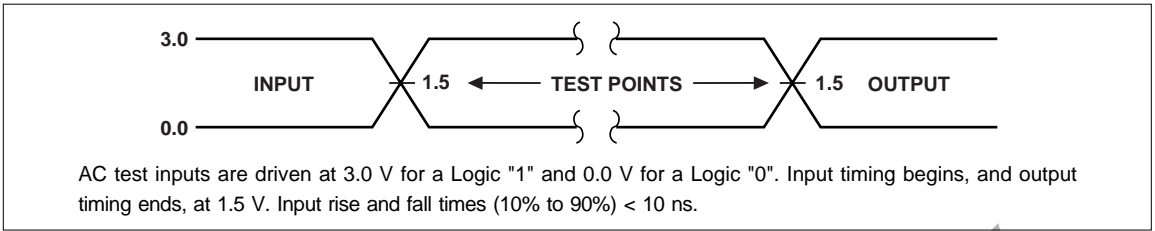
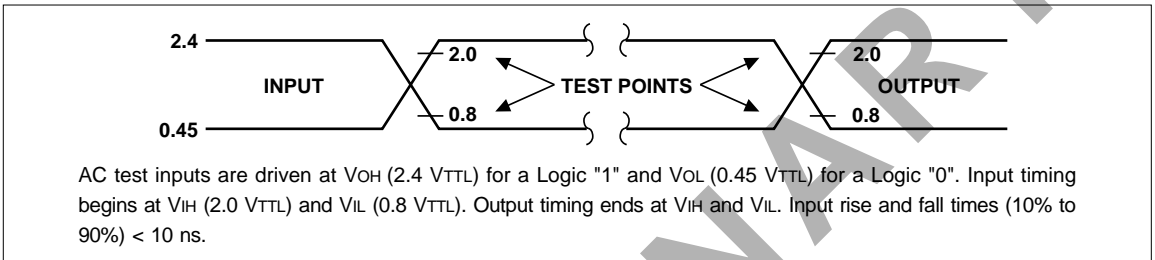
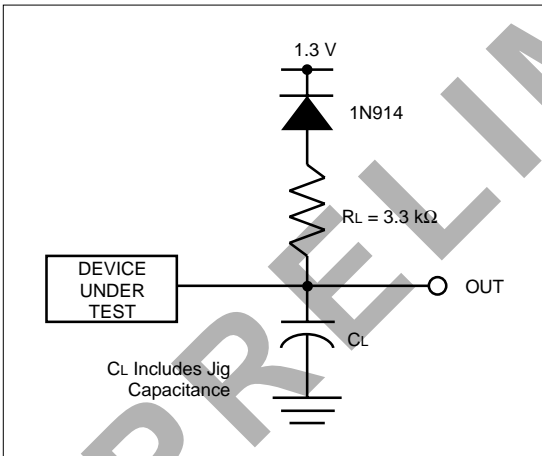

Fig. 12 Transient Input/Output Reference Waveform for $V_{CC} = 5.0 \pm 0.25 \text{ V}$ (High Speed Testing Configuration)
Fig. 13 Transient Input/Output Reference Waveform for $V_{CC} = 5.0 \pm 0.5 \text{ V}$ (Standard Testing Configuration)
Fig. 14 Transient Equivalent Testing Load Circuit
- See AC Input/Output Reference Waveform (Fig. 12 and Fig. 13) for maximum allowable input slew rate.
- See Fig. 12 "Transient Input/Output Reference Waveform" and Fig. 14 "Transient Equivalent Testing Load Circuit" (High Speed Configuration) for testing characteristics.
- See Fig. 13 "Transient Input/Output Reference Waveform" and Fig. 14 "Transient Equivalent Testing Load Circuit" (Standard Configuration) for testing characteristics.